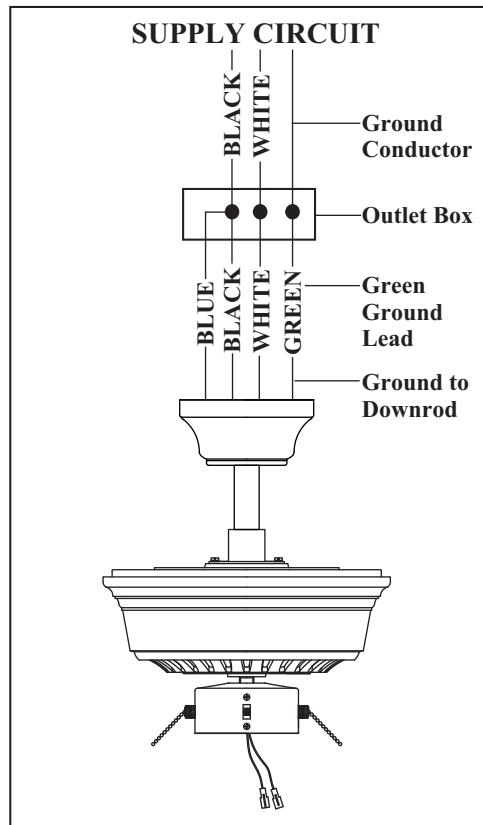

Figure 13
1. Connect the ground conductor of the 120V supply (this may be a bare wire or a wire with green colored insulation) to the green ground lead(s) of the fan. (Figure 13) When using standard ceiling mounting, there are two green grounding leads; one from the ceiling mounting bracket and one from the ball/downrod assembly. When using “Flushmount Installation” mounting, there is only one green ground lead from the ceiling mounting bracket since the ball/downrod assembly is not used.
2. Connect the fan motor white wire to the supply white (neutral) wire using a wire nut. (Figure 13)
3. Connect the fan motor black wire to the supply black (hot) wire using a wire nut. (Figure 13)